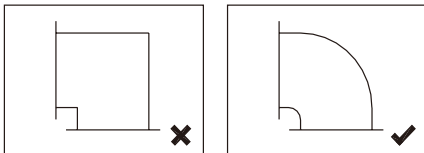

Fig.4 Elbow type
- (1) Neither of the ducts can exceed 15–30m long (according to models). Internal cross-sectional area of the duct is decided by internal fan speed, about 8m/s in main pipe and about 5m/s in branch pipe. If rectangular duct is used, the scale of length between two sides can not exceed. The duct should be made of noncombustible materials.
- (2) Use elbows as few as possible, which should be within 3 for either duct. The bending part can never be 90° but arc, as shown in fig.4 and 5.